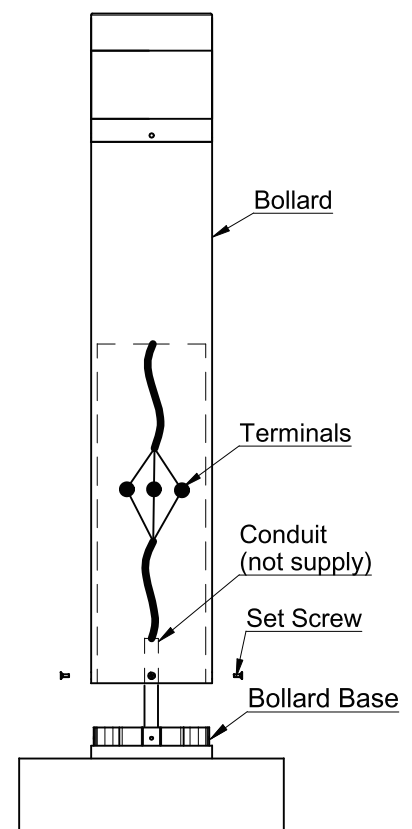

Figure 4
8. Replace the Set Screws (3) to secure the Bollard to the Bollard Base. See Figure 4.